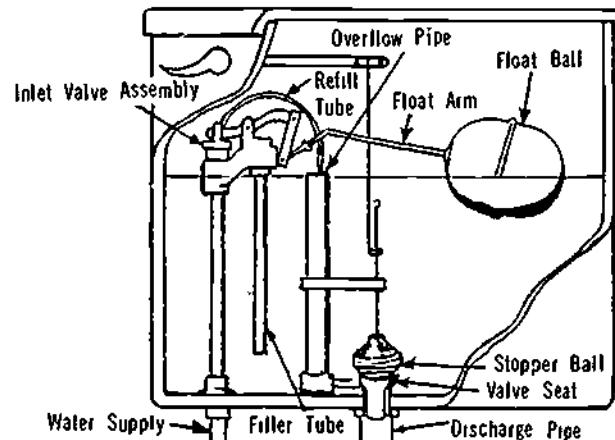

Figure 23-17. Components of Flush Tank
51. Knowledge of the principle on which a flush tank operates will help you to locate the source of trouble. Study the flush tank shown in Figure 23-17, keeping in mind that there are many different types of flush tanks and flushing mechanisms.
54. Note in Figure 23-17 the small refill tubing that feeds into the overflow pipe. During the refilling process, water passes through this tubing and into the overflow pipe, thence to the bowl trap. This tubing ensures replacement of water in the trap, which is essential as a safeguard against sewer gases entering the room through the bowl.